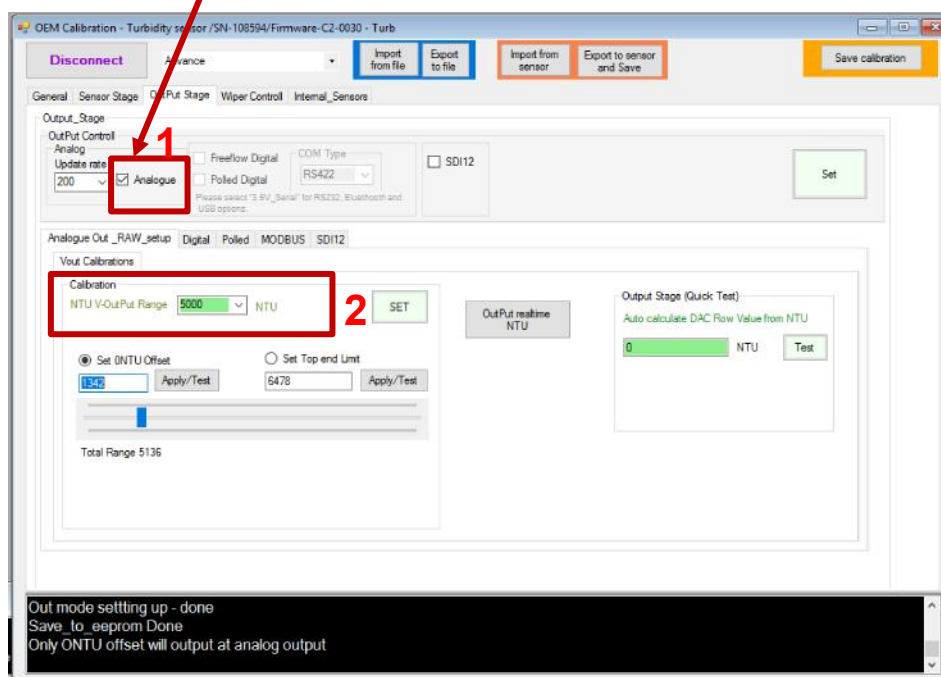

Figure 7.I: Selection of the Analog option
1. Enabling Analog option (Figure 7.I: #1).